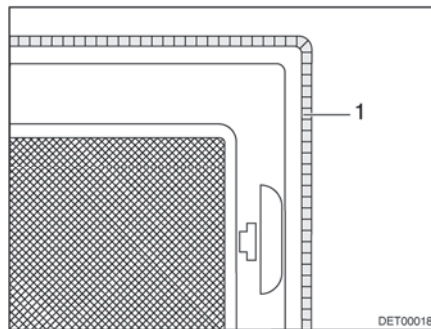

Fig. 52 Forced ventilation
**Forced ventilation** Depending on the equipment, the skylight will be equipped with a forced ventilation (Fig. 52,1). The skylights with forced ventilation are installed in the living area and in the toilet compartment.